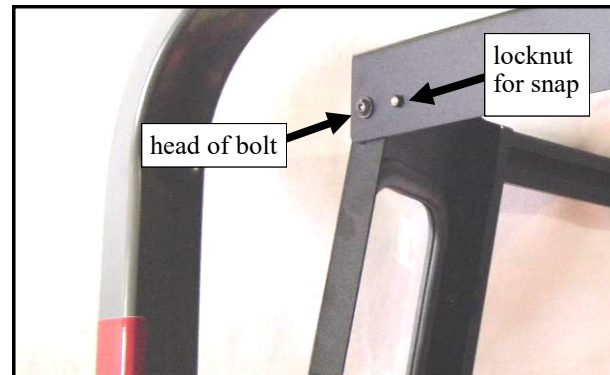

Fig. 4.1 (view from right side of tractor)
4.1 Per fig. 4.1 and with assistance, install the rear cross brace oriented so snaps are inside the cab and the locknuts holding the snaps are outboard as shown. Use the following hardware to attach the brace to the top rear of each side frame: a 5/16 x 1-1/4" long button head bolt, plastic washer and locknut.